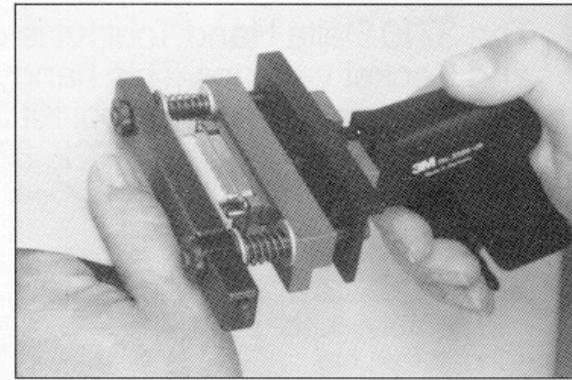

Fig. 6
8. Close assembly head bar. Complete the assembly procedure by moving the pistol actuator to end stop. (fig. 6)